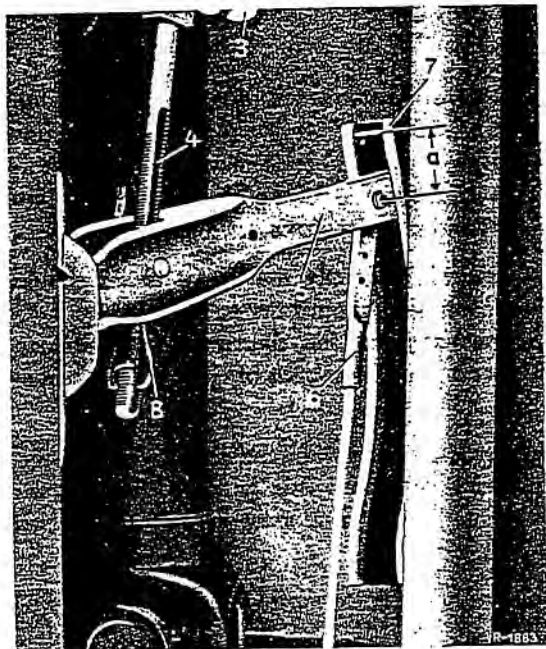

Fig. 42-20/12
With the ratchet completely released, attach the four-hole end-piece of the center brake cable (6) to the relay lever (5) in such a way that the distance from center cotter pin hole of the guide plate (7) to center bore relay lever (for center brake cable) is a = 20 to 40 mm (Fig. 42-20/12).
Back out the wing nut (8) on the tensioning screw (4) until the tension levers of the hand brake caliper are in their released position (see Fig. 42-20/12). Then tighten the wing nut until the tension levers are just beginning to move. Proceeding from this adjustment, back off the wing nut one half turn. Then actuate the ratchet several times so that the distance between lining carrier and brake disk can adjust itself properly (approx. 0.2 mm clearance between the brake lining of the friction pad and the brake disk). When the length of the brake cable has been properly adjusted, it should be possible to pull out the ratchet 5 to 10 notches with medium force.